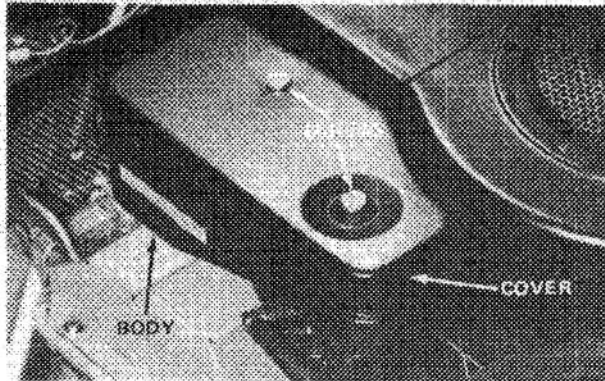

Figure 22
2. Remove two screws and lift complete air cleaner assembly off carburetor (Fig. 22).